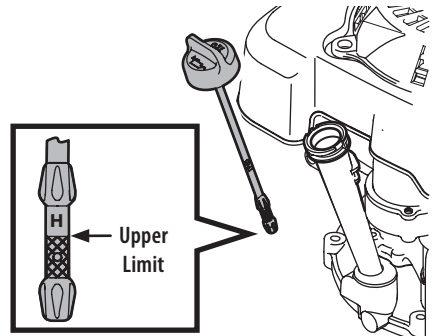

Figure 2
- Keep oil at the upper limit on the dipstick (Figure 2 inset).
1. Remove the oil fill cap and wipe the dipstick clean (Figure 2).
3. Loosen and remove the oil fill cap from the oil fill neck. Note the oil level, if oil reading on the dipstick is below the upper limit, slowly add oil to reach the upper limit (Figure 2 inset).